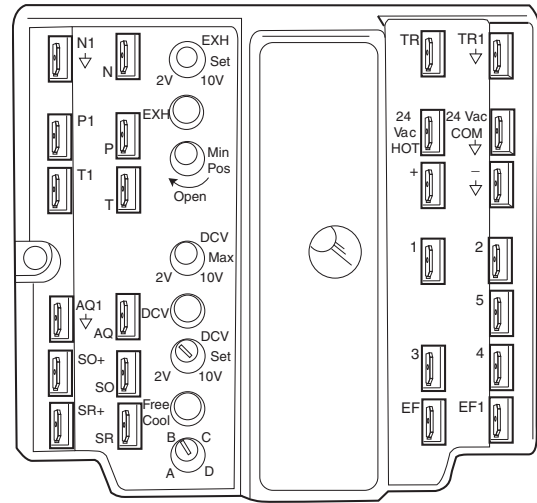

Fig. 17 — EconoMiSer IV Controller (HH63AW001-W7212 Honeywell Controller)
1. With main power shut off, mark minimum position on EconoMiSer® IV controller. (See Fig. 17.)
5. Turn the minimum position potentiometer (MIN POS) on the Economizer IV controller clockwise to open until the exhaust LED (EXH) lights up. (See Fig. 17.)